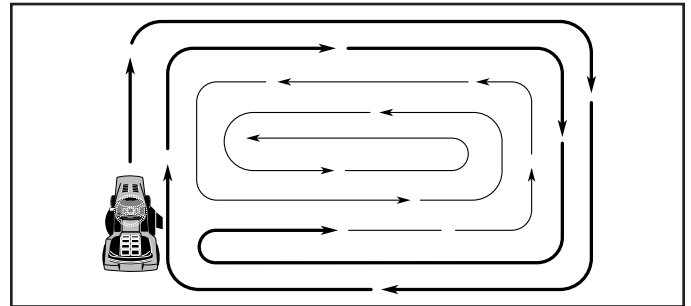

FIG. 23
- When mowing large areas, start by turning to the right so that clippings will discharge away from shrubs, fences, driveways, etc. After one or two rounds, mow in the opposite direction making left hand turns until finished (See Fig. 23).